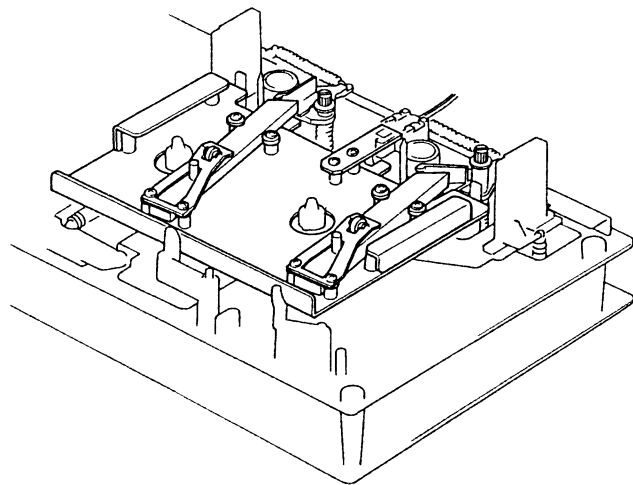

Fig. 4.14
Remove Head Mount Base Ass'y referring to item 2.25. Refer to Figs. 4.14 and 4.15.